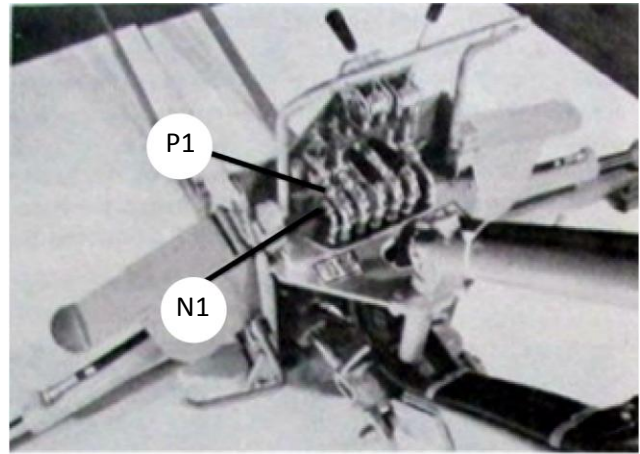
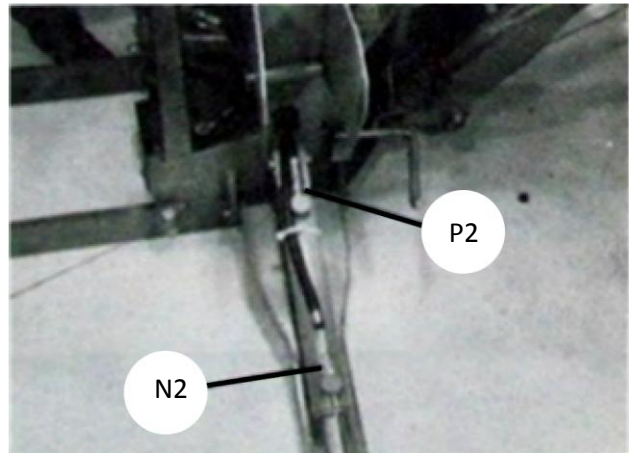

Fig 15
Fig. 16
(15) Connect end of “left stabilizer up” hose (Item 13) equipped with short 90° fitting to lower Port (Point N1) on far left hand valve section as shown in Fig. 15. Route hose through hole in left side plate and connect to the rod end Port (Point N2) of left stabilizer cylinder as shown in Fig. 16. Using a plastic hose tie, fasten the hose to the stabilizer cylinder approximately 2” below the base end Port.
(16) Connect end of “left stabilizer down” hose (Item 12) equipped with long 90° fitting to Port (Point P1) on far left hand valve section as shown in Fig. 15. Route hose as in Step 15 and connect to the base Port (Point P2) on left stabilizer as shown in Fig. 16.